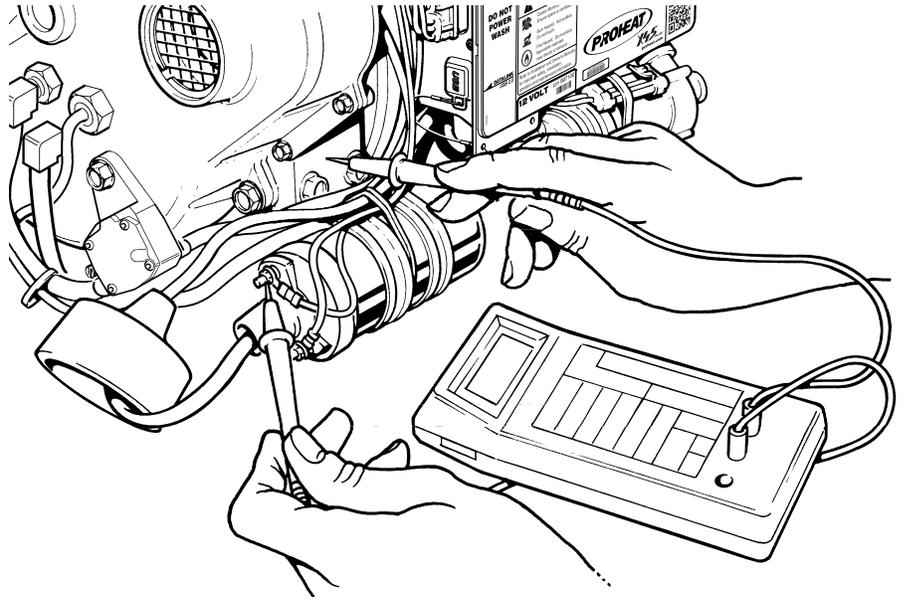

Figure 4-30. Heater Voltage Measurement
2. Select the DC Volts range of a multimeter and connect as per figure 4-30. The positive lead of the multimeter should be attached to the positive coil lead. The negative lead of the multimeter should be attached to the heater chassis at the PROHEAT ground boss. (Figure 4-30)